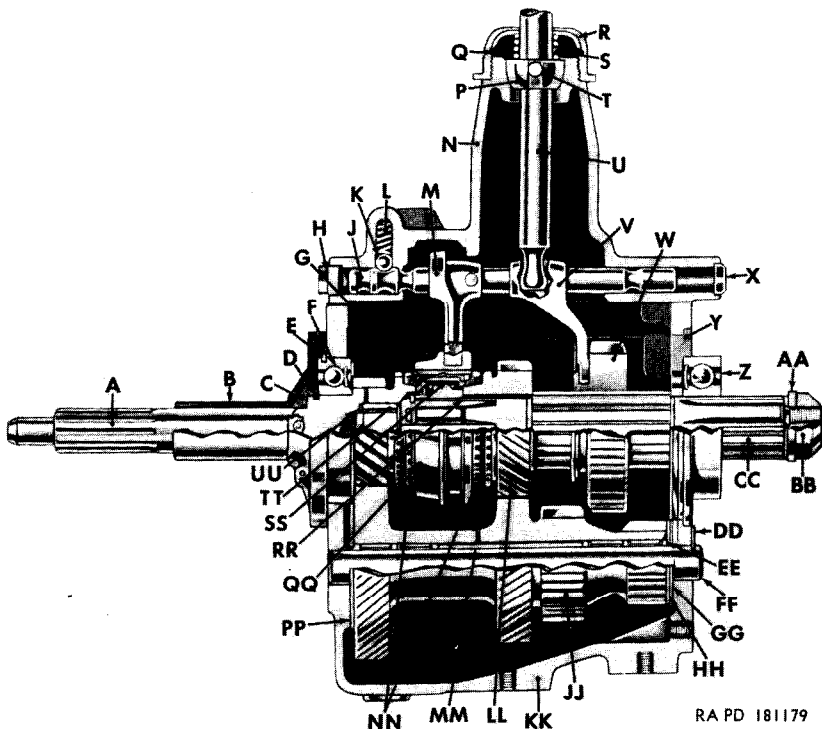

Figure 43. Cross sectional view of transmission with gearshift hand lever, assembly.
a. General. The transmission (fig. 43) is a synchromesh, selective-gear type having 3 forward speeds and 1 reverse. The gears are selected, or shifted, manually by means of sliding shafts with attached forks and lugs which are supported in and inclosed by a control cover attached to the top of the transmission case. The transmission, which is attached to both engine assembly and transfer assembly, is supported on a rubber insulator mounted on the engine rear support crossmember. Drilled passages in the transmission and transfer cases provide for lubricant circulation between the two assemblies. This circulation of lubricant also permits internal air circulation between the two water-tight assemblies. The transmission is vented through the transfer by means of a vent on top of the case.